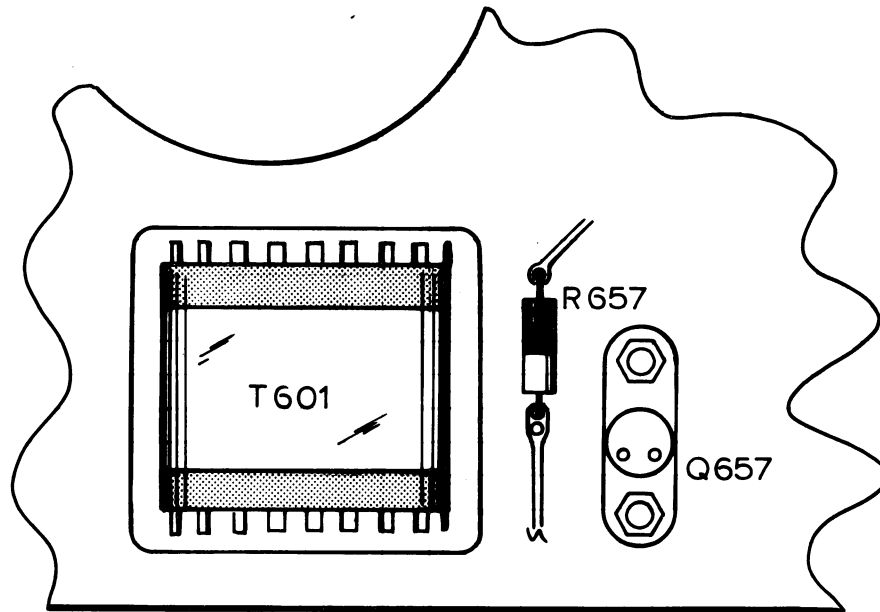

Fig. 2
- () 5. Replace R657 located on the AC Power Supply circuit board between T601 and Q657 with a 15 Ω 1W 5% resistor from the kit. See Fig. 2.